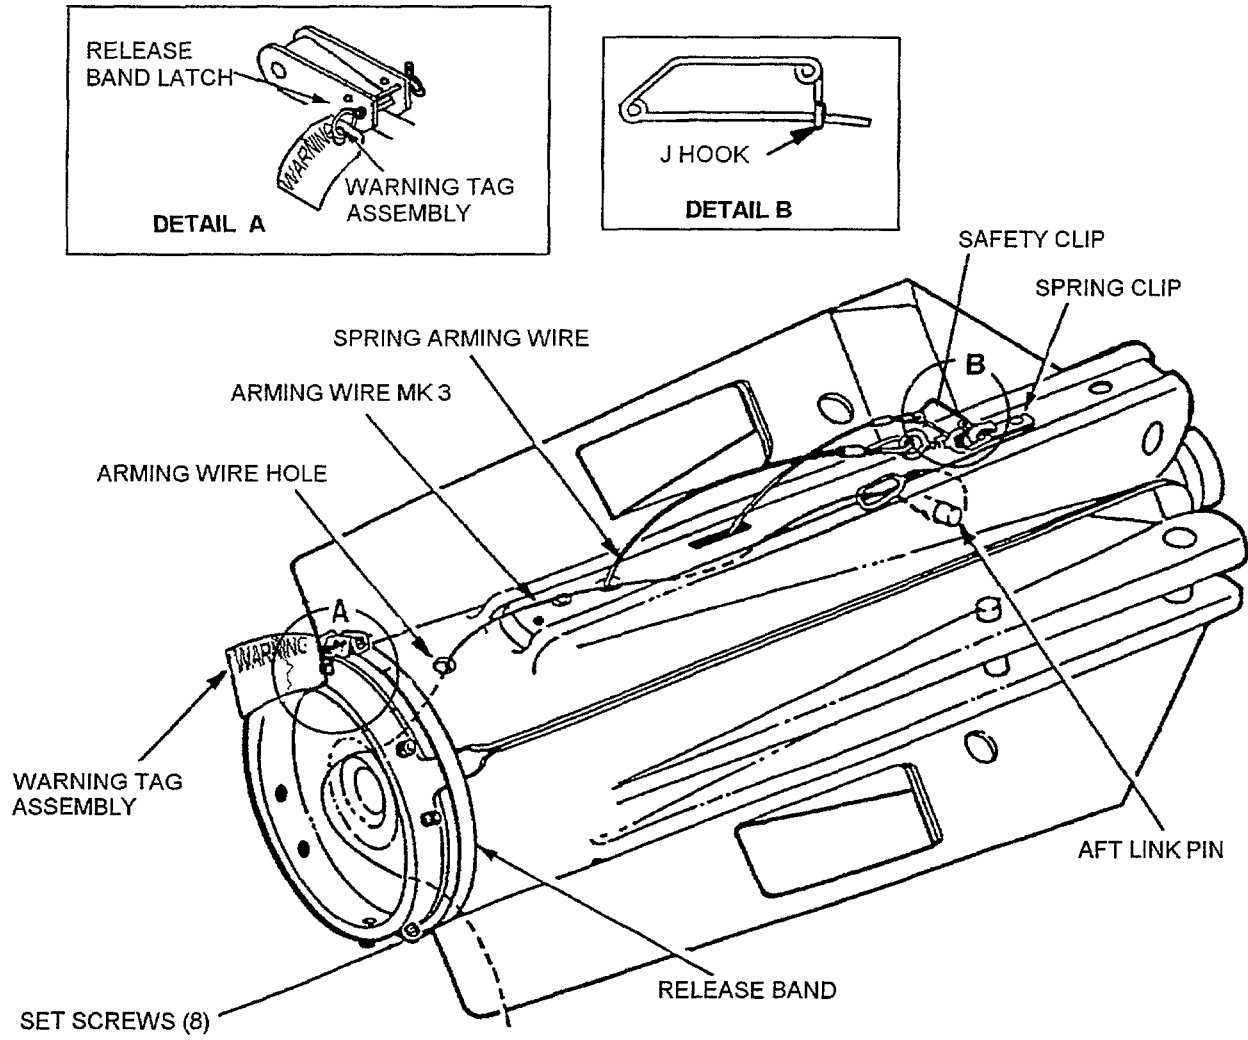

Figure 4-5A. Bomb Fin BSU-86/B or BSU-86A/B
- (1) Close fins and clamp them together with vise grip pliers.
- (2) Relatch release band and insert warning tag assembly in hole furthest from hinge (Figure 4-5A, detail A).
- (3) Remove vise grip pliers.
m. Ensure spring arming wire (SAW), both cables, and SAW housing are not damaged. Inspect safety clip and verify the length of wire extending beyond J-hook (Figure 4-5A) of the safety clip is 3/8 inch. Cut wire if necessary.